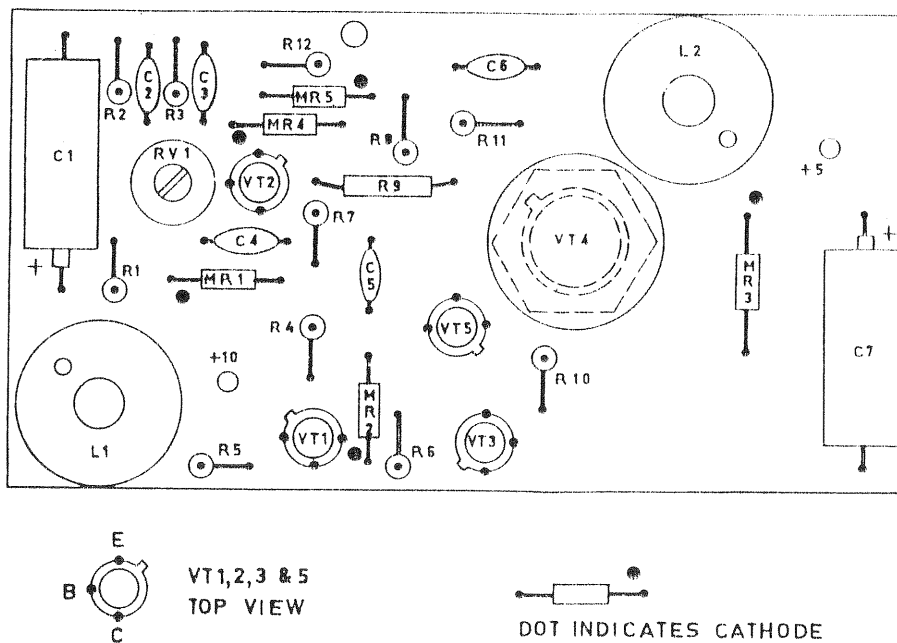

FIG 9 — VOLT REGULATOR 10-4CB1 — COMPONENT LAYOUT
**5 Volt Regulator 10-4CB1 (See Fig 9).**
- Check components against Fig 9 paying particular attention to the polarity of rectifiers and capacitors.